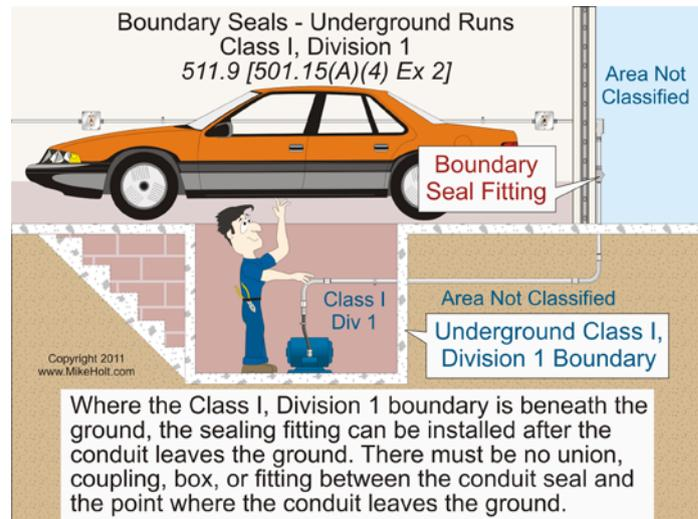

Figure 511-12
Author's Comment: If the Class I, Division 1 boundary is beneath the ground, the sealing fitting can be installed after the raceway leaves the ground. However, there must not be any unions, couplings, boxes, or fittings (except explosion-proof reducing bushings) between the seal fitting and the point where the raceway leaves the earth [501.15(A)(4) Ex 2]. **Figure 511-12**